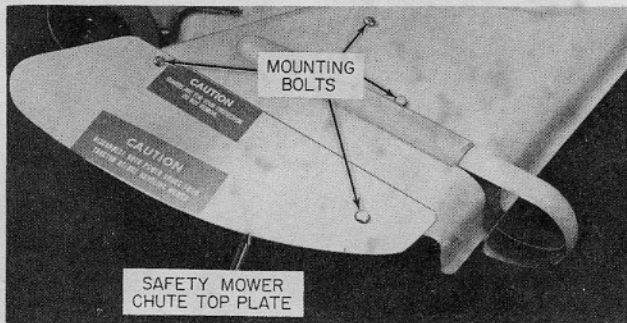

Fig. 1
2. Using the template provided, locate and drill two 5/16-inch holes near the right side of the mower deck as shown in Fig. 1.